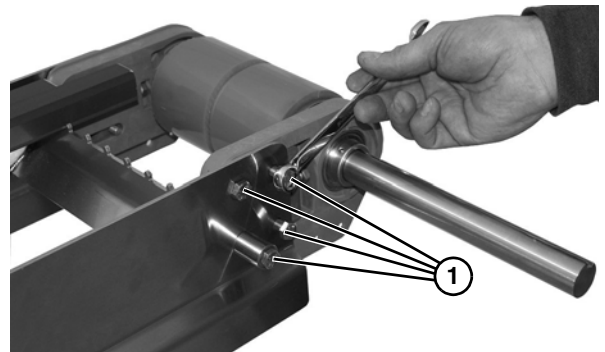
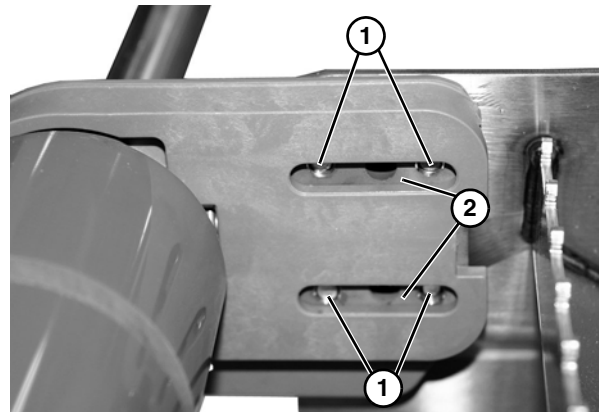

Figure 36
Figure 37
3. Loosen the four head plate bolts (**Figure 36, item 1**) so that bolts (**Figure 37, item 1**) are flush with drive tail blocks (**Figure 37, item 2**). Repeat on opposite side of the conveyor.